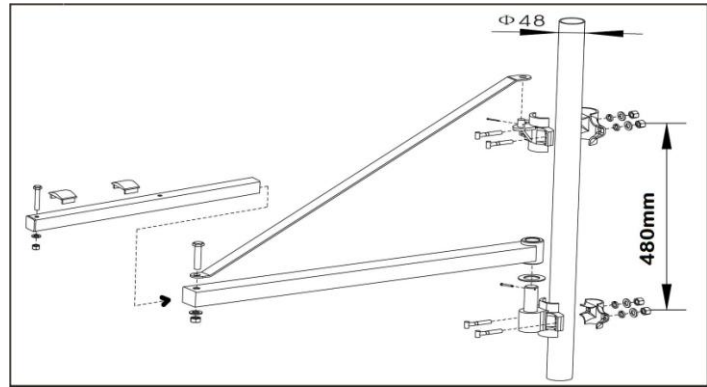

Fig.3
- 2) For proper installation of the protrusion bar, follow instructions as shown Fig.3.